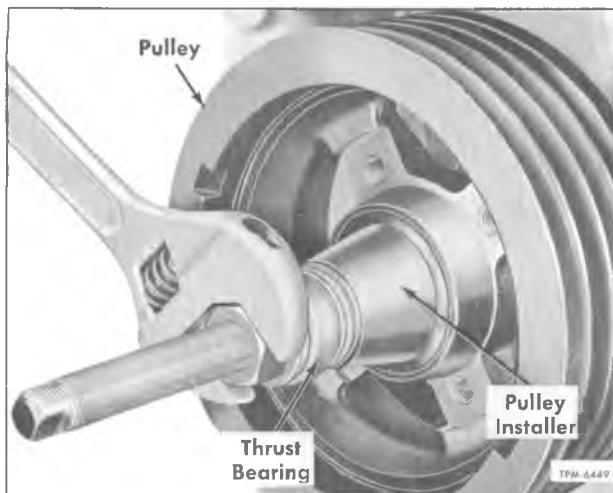

Figure 36—Tool Application for Crankshaft Pulley or Hub Installation
2. Align keyway in pulley or hub with key in crankshaft, then start pulley or hub onto front end of crankshaft. Assemble special installer shown in figure 36, and turn nut with wrench to force pulley firmly into place on crankshaft.